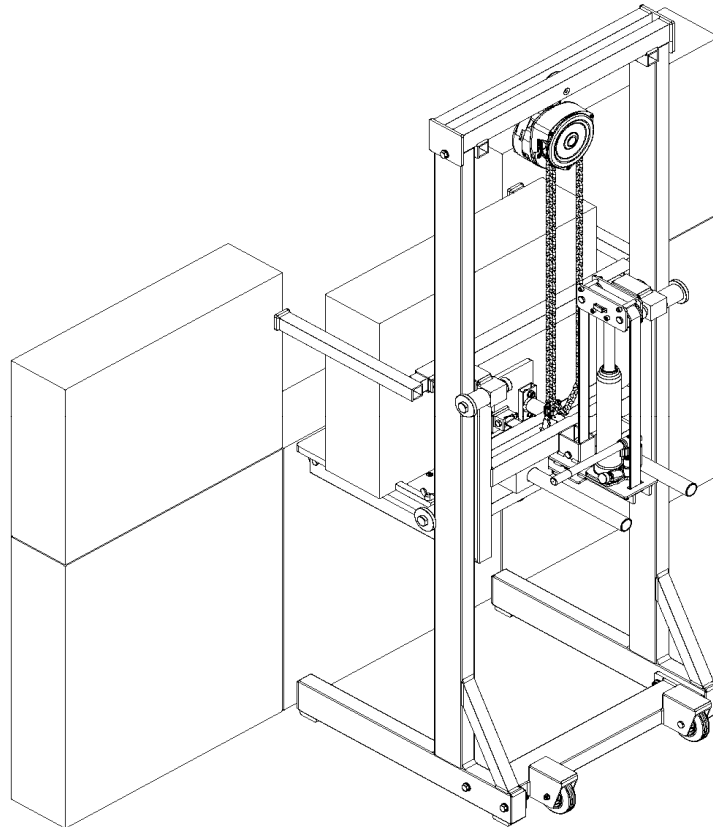
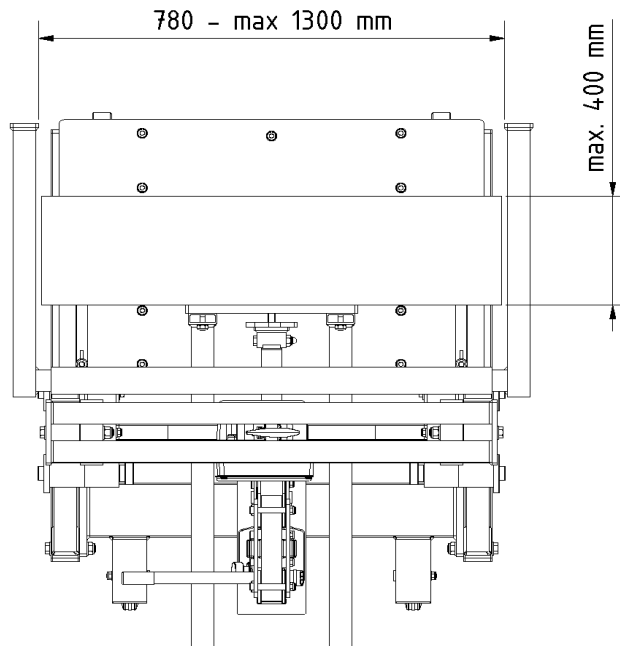

Fig. 8
Fig. 9
8.10 Only now can you pull the stone block out until it is positioned at the centre of the pallet see fig. 8 and fig. 9.